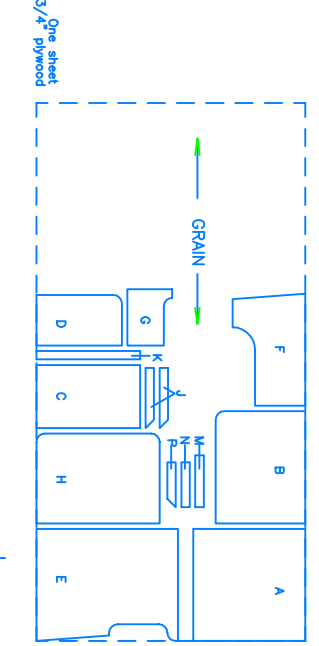
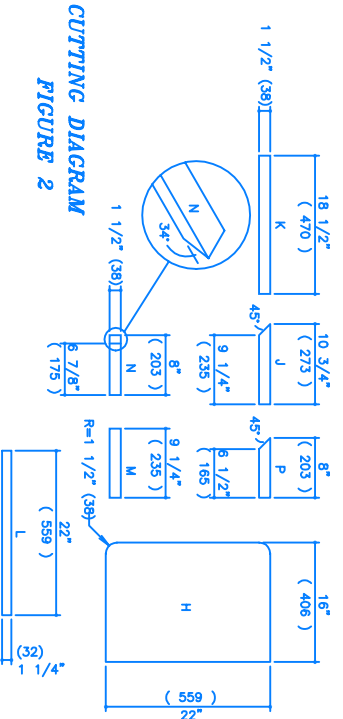

FIGURE 1
FIGURE 2
- 1) Lay out your material on the workbench, as outlined in the suggested material layout (Fig. 1). Draw out all parts exactly as illustrated in cutting diagram (Fig. 2), including the letter designations, in pencil. Ensure to leave a small space between cut lines to allow for the width of the sawkerf and to give the work a smooth finish. Cut the parts in the correct sequence. Always cut on the waste side of the line. Cut the 3/4" rabbet for A & B with a router and guide. Chiseling out any all edges. Use the compass to draw the curves, the radii are given. Sand all edges.